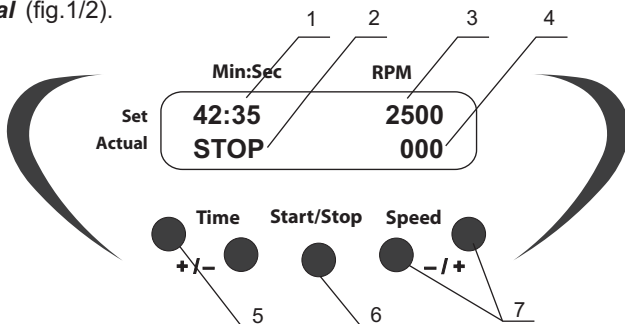

fig.1 Control panel
- 4.4. Use the **+** and **- Speed** keys (Fig. 1/7) to set the required speed (increment - 100 rpm). Pressing the key down for more than 2 sec will increase the increment. The set value is displayed in the upper line of the display (Fig. 1/3).
- 4.5. Use the **+** and **- Time** keys (Fig. 1/5) to set the required working time interval in min & sec (increment - 1 min). Pressing the key down for more than 2 sec will increase the increment. The set value is displayed in the upper line of the display (Fig. 1/1).
- 4.6. Press the **Start/Stop** key (Fig. 1/6). The platform will start vortexing and the timer indicator will start counting up the time interval in the lower line of the display - **Actual** (fig.1/2).
- 4.7. If the working time is not set (or is reset) and the display shows 00:00, pressing the **Start/Stop** key will cause the unit to operate continuously until the **Start/Stop** key is pressed. Actual value of the platform speed is displayed in the lower line of the display (fig. 1/4)
- 4.8. After finishing of the program (after the set time elapses) the platform motion will stop and flashing reading "STOP" will appear in the lower line of the display accompanied by the repetitive sound signal until the **Start/Stop** (fig. 1/7) key is pressed.